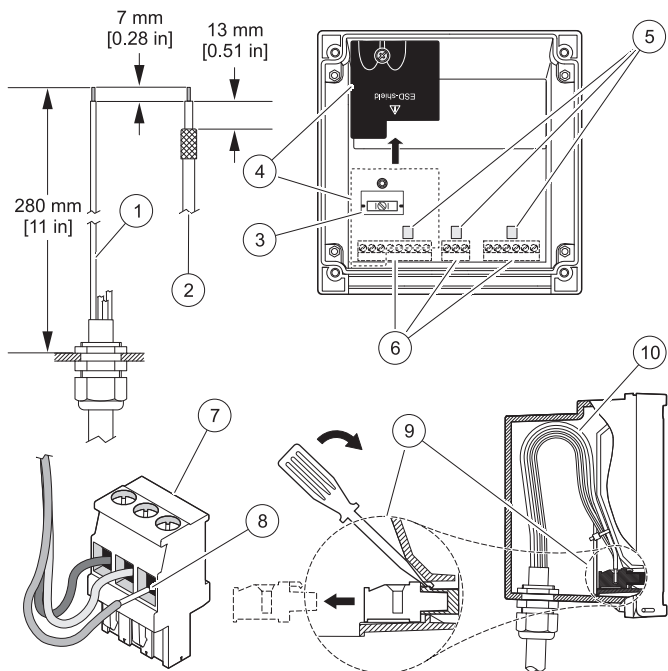

Figure 3 Wire preparation and insertion
2. Use the screwdriver as a lever to lift the terminal block off the connectors (see Figure 3 on page 22).